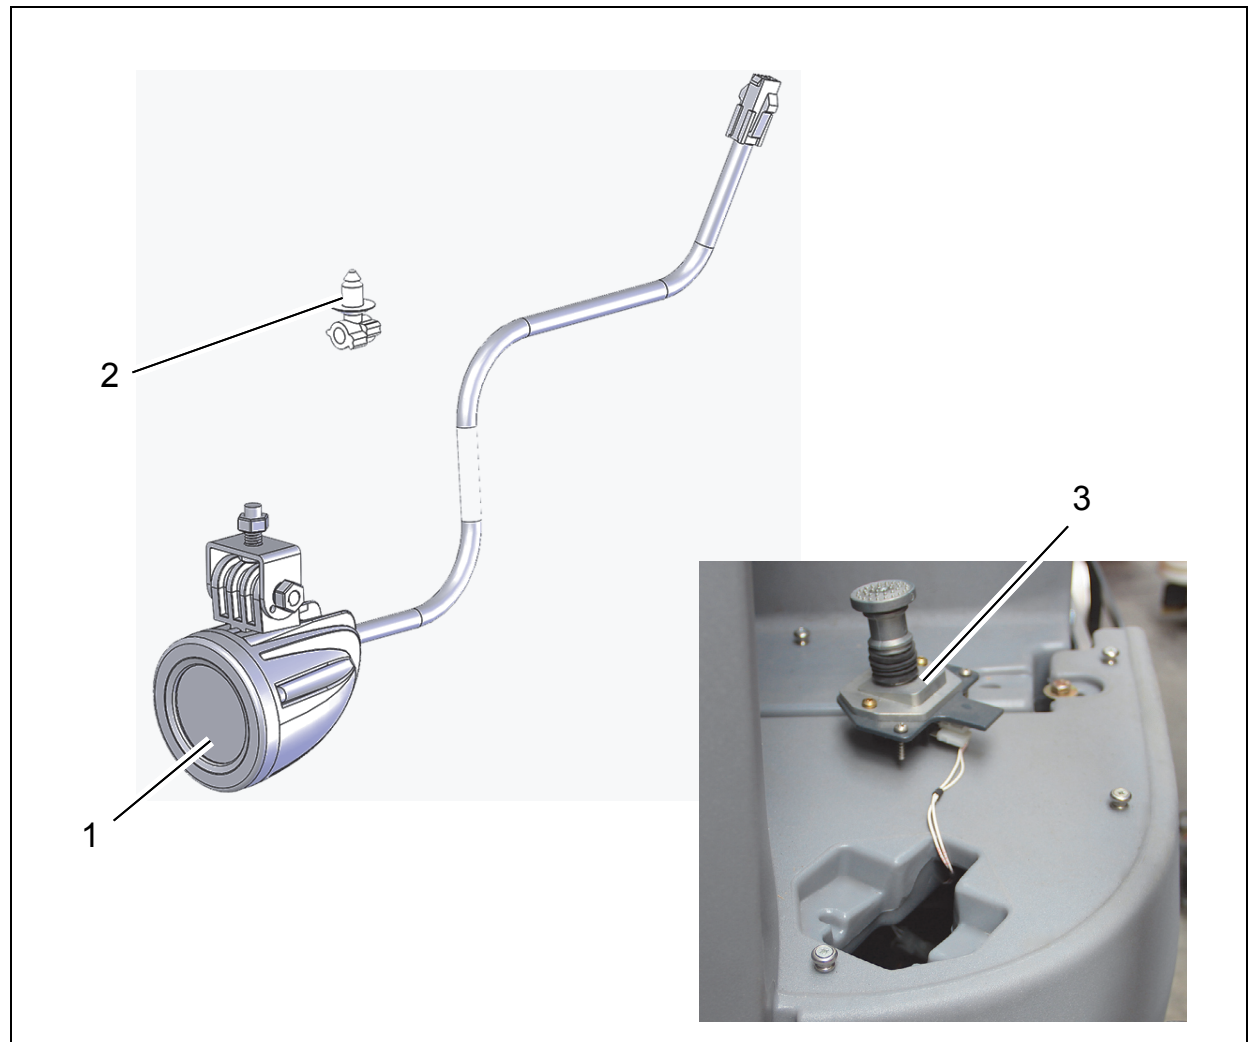

Fig. 1
3. Remove brake button (Fig. 1/3)